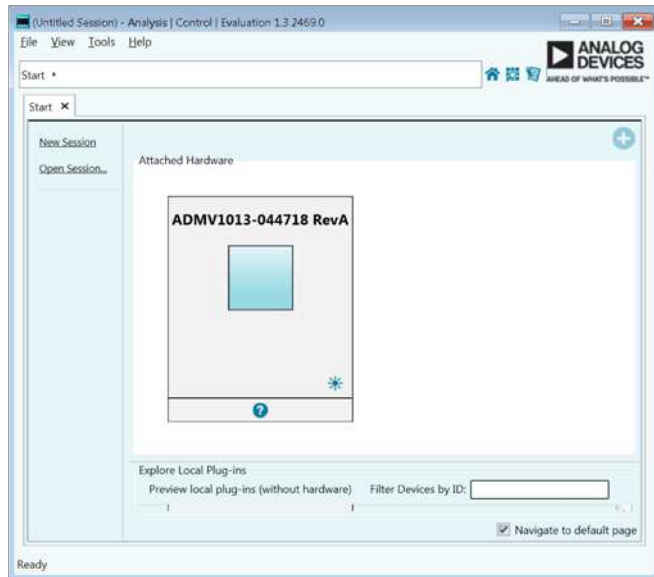

Figure 11. Attached Hardware Section When the ADMV1013-044718, Rev. A (ADMV1013-EVALZ) is Connected
4. Open the **ACE** software. The **ADMV1013-044718, Rev. A** plugin (ADMV1013-EVALZ) appears in the **Attached Hardware** section shown in Figure 11. Double click the **ADMV1013-044718 RevA** plugin within the **Attached Hardware** section.